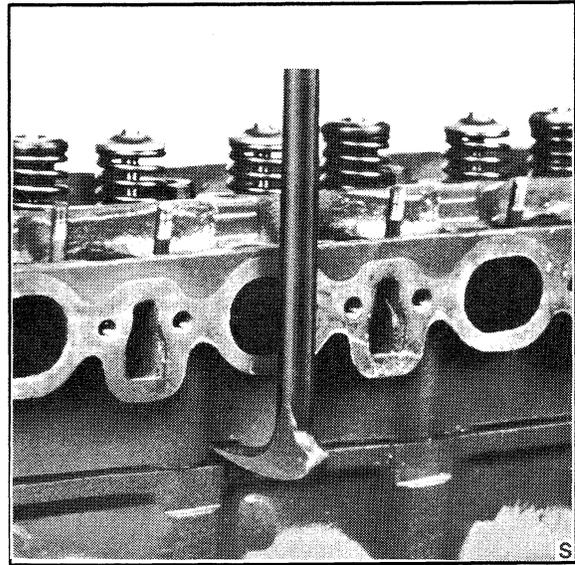

FIGURE 1-8
22. Lift the cylinder head from the block. If necessary, pry the head off using the pads provided, taking care not to damage the cylinder head or block faces, see Figure 1-8.